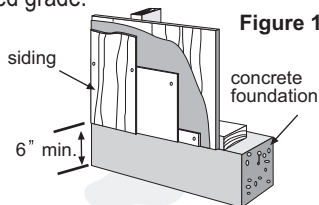

Figure 1
- Install James Hardie products with a minimum 6" clearance to the finished grade on the exterior of the building or in accordance with local building codes if greater than 6" is required (fig. 1).